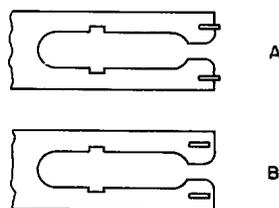

Fig. 6—Crosspoint Bifurcated Spring Contacts Used on Crossbar Switches
(b) **Overhanging Crosspoint Contacts on Crossbar Switches:** Where the contacts on crosspoint bifurcated springs overhang the end of the spring, as shown in Fig. 6(A), the replacement contacts will be positioned as shown in Fig. 6(B) using the AA guide.